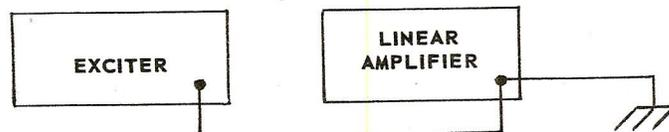

Figure 2. Proper Grounding Method
2-16. GROUND. Terminal for attaching ground wire to the linear amplifier. NOTE: Most satisfactory grounding method is to run ground wire from the exciter to the linear amplifier. to ground. See Figure 2.
(2) Replace the amplifier into the cabinet and install the panel mounting screws. Be careful not to mar the panel when replacing the screws, also install the two self-tapping screws on the rear of the cabinet.
(3) Attach a good electrical ground to the chassis grounding connection (located on rear apron of chassis). See paragraph 2-16 and Figure 2.
(4) Connect the antenna feedline to the appropriate coaxial receptacle depending on band of operation desired. The use of a coaxial feedline naturally indicates the use of a coaxial connector such as the type 83-1SP. If a twin-lead type feedline is used, simply insert one conductor of the feedline into the center hole of the appropriate coaxial receptacle (a banana plug serves well as a connector for this purpose) and connect the other conductor of the feedline to the grounding connection on the chassis (same place the external ground wire is attached). NOTE: Use an antenna tuner, or balun with any twin lead feedline system, rather than connecting twin lead directly to the pi-net, as above.
- (1) Place the A.C. POWER switch to the OFF position.
- (2) Place the FUNCTION switch to the STAND-BY position.
- (3) Place the R.F. IND. switch (rear apron of chassis) to the 80-10M position.
- (4) Place the 6M IN-OUT switch to the OUT position.
- (5) Place the BAND SELECTOR switch to desired band of operation, 80-10 meters.
- (6) Place the MODE switch to the CLASS B position.
- (7) Connect the R.F. Exciter (through a length of RG-59/U cable) to the R.F. INPUT receptacle on the rear apron of the Amplifier chassis.
- (8) Connect a short, heavy external grounding wire to the GROUND terminal. See paragraph 2-16 and Figure 2.
- (9) Connect the antenna feedline to the coaxial receptacle labeled 80-10M.
- (10) Set the ANT. COUPLING control knob to the "9 o'clock" or extreme counter-clockwise position.
- (11) Set the PLATE TUNING control knob to the "9 o'clock" or extreme counter-clockwise position.
- (12) Insert the A.C. power cord plug into a 115V A.C. source receptacle.
- (13) Set the R.F. Exciter Antenna Loading, or Coupling, control to the minimum loading position. If the R.F. Exciter has a link coupled output circuit, set the "link" to minimum coupling.
- (14) Turn on and tune up the R.F. Exciter to the desired band of operation, then place to the stand-by position.
- (15) Place the Amplifier A.C. POWER switch to the ON position. Allow at least a one minute warm-up period.